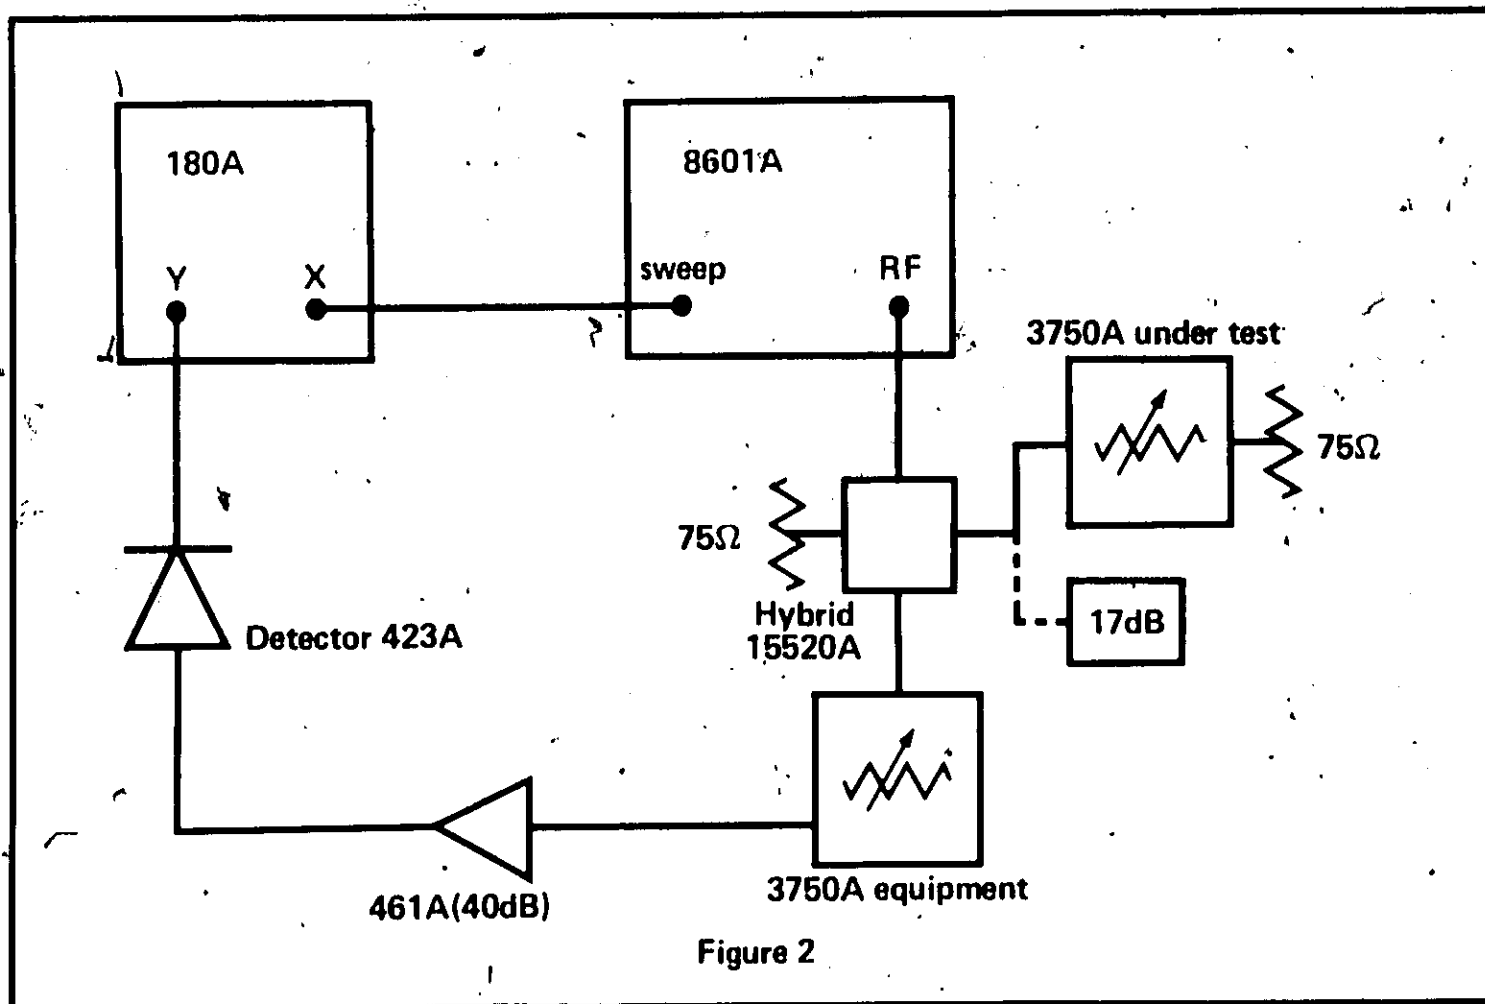

Figure 2
- 15 Connect equipment as shown in Figure 2.